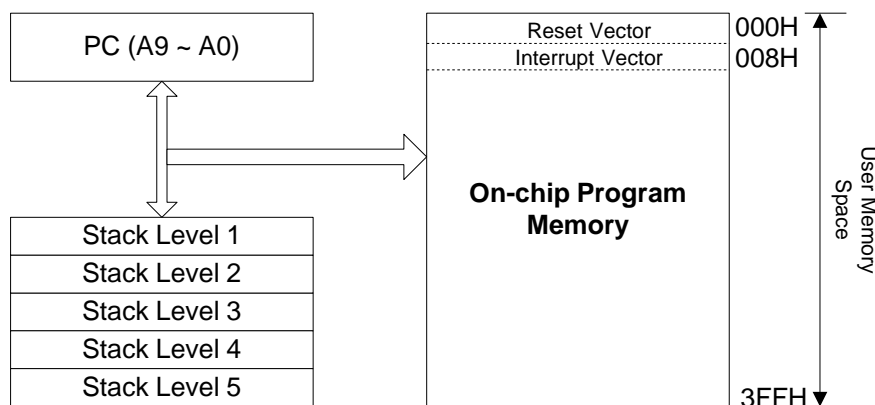

Figure 3 Program Counter Organization
- Depending on the device type, R2 and hardware stack are 10-bit wide. The structure is depicted in Figure 3.